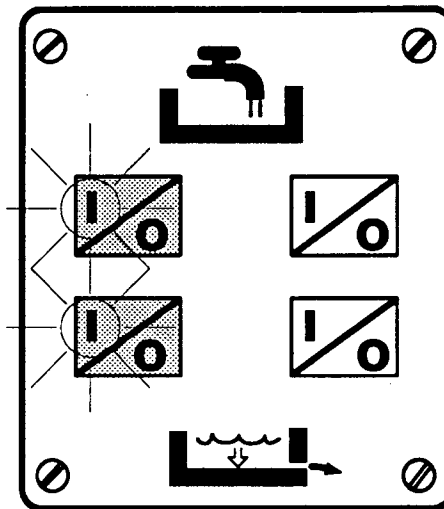
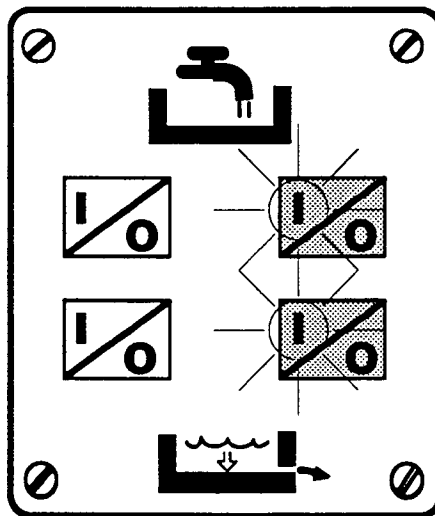

figure 12
figure 13
4. If an advanced calibration setting was already performed, the status of the DEVELOPER setting will be shown (blinking LED'S) after a short time (see figure 12), followed by the FIXER setting (blinking LED'S, see figure 13).